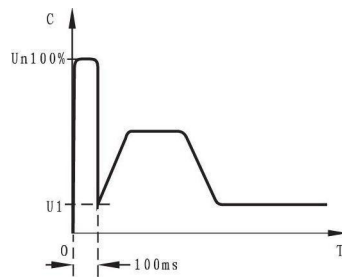

Figure 12-3-1
a) The soft starter will be under kick starting mode when code F9 is set to 2(kick+ current limiting) or 3 (kick + voltage). Figure 12-3-1 and 12-3-2 show the output change wave of the kick starting mode. In some occasions with heavy load, this starting mode can be used when the motor fails to be started due to effect of the mechanical static friction force. During start, apply a relatively high fixed voltage to the motor for a limited period to overcome the static friction force of the motor load to rotate the motor, then the motor will be started in the current limiting or fixed voltage ramp method.